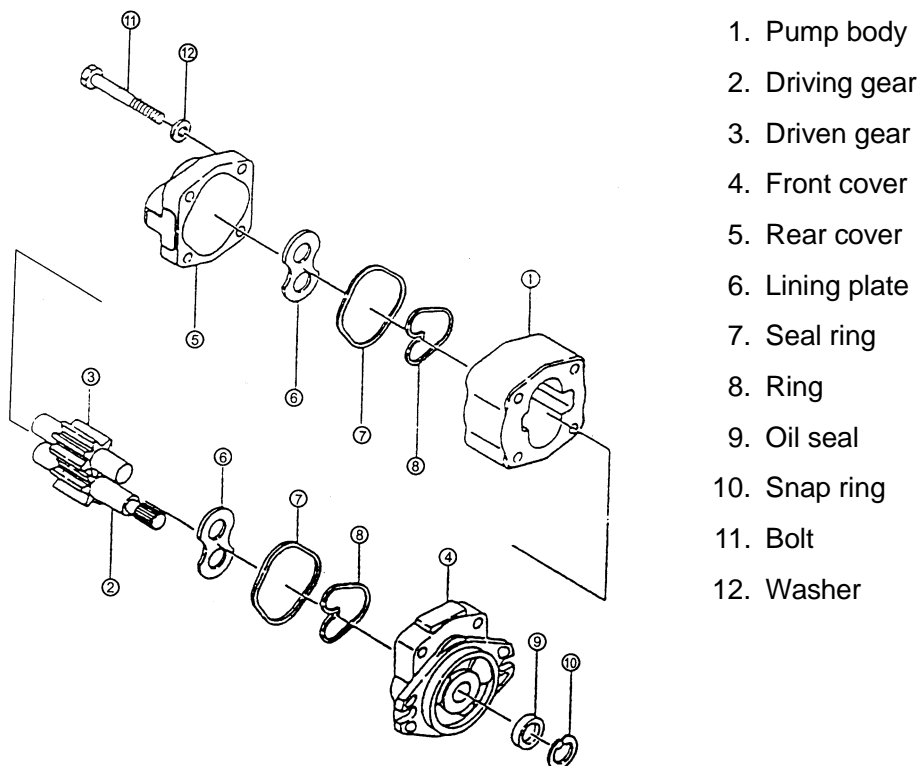

Fig.7-9 Gear pump
- (b) Remove bolts ①, pump cover ⑤, pump body ① (Fig. 7-9).
- (c) Remove lining plate ⑥, driving gear ② and driven gear ③.
- (d) Remove seal ring ⑦ and ring ⑧ from the front and rear covers.